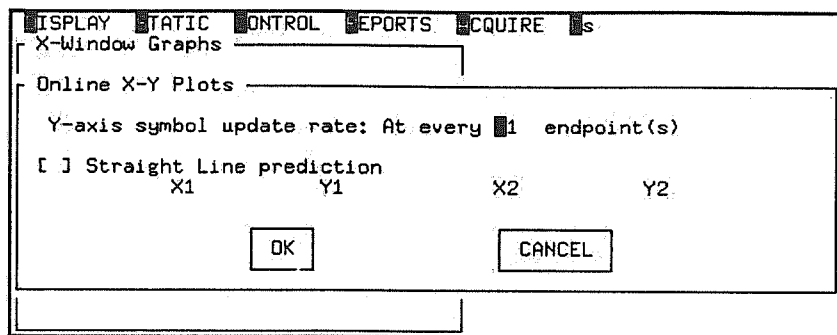

Figure 12-8 Setting Up Global Parameters for On-Line X-Y Plots
- Step 1)** Select **Graphs, On-Line X-Y Plots** option. The dialog box in **Figure 12-8** is displayed.